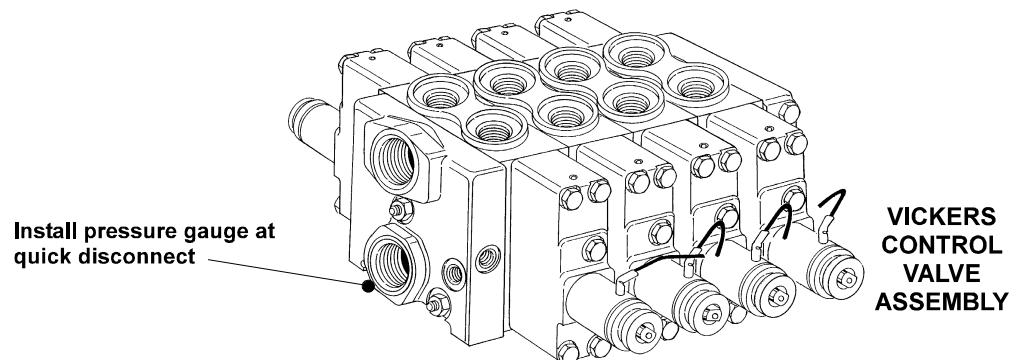
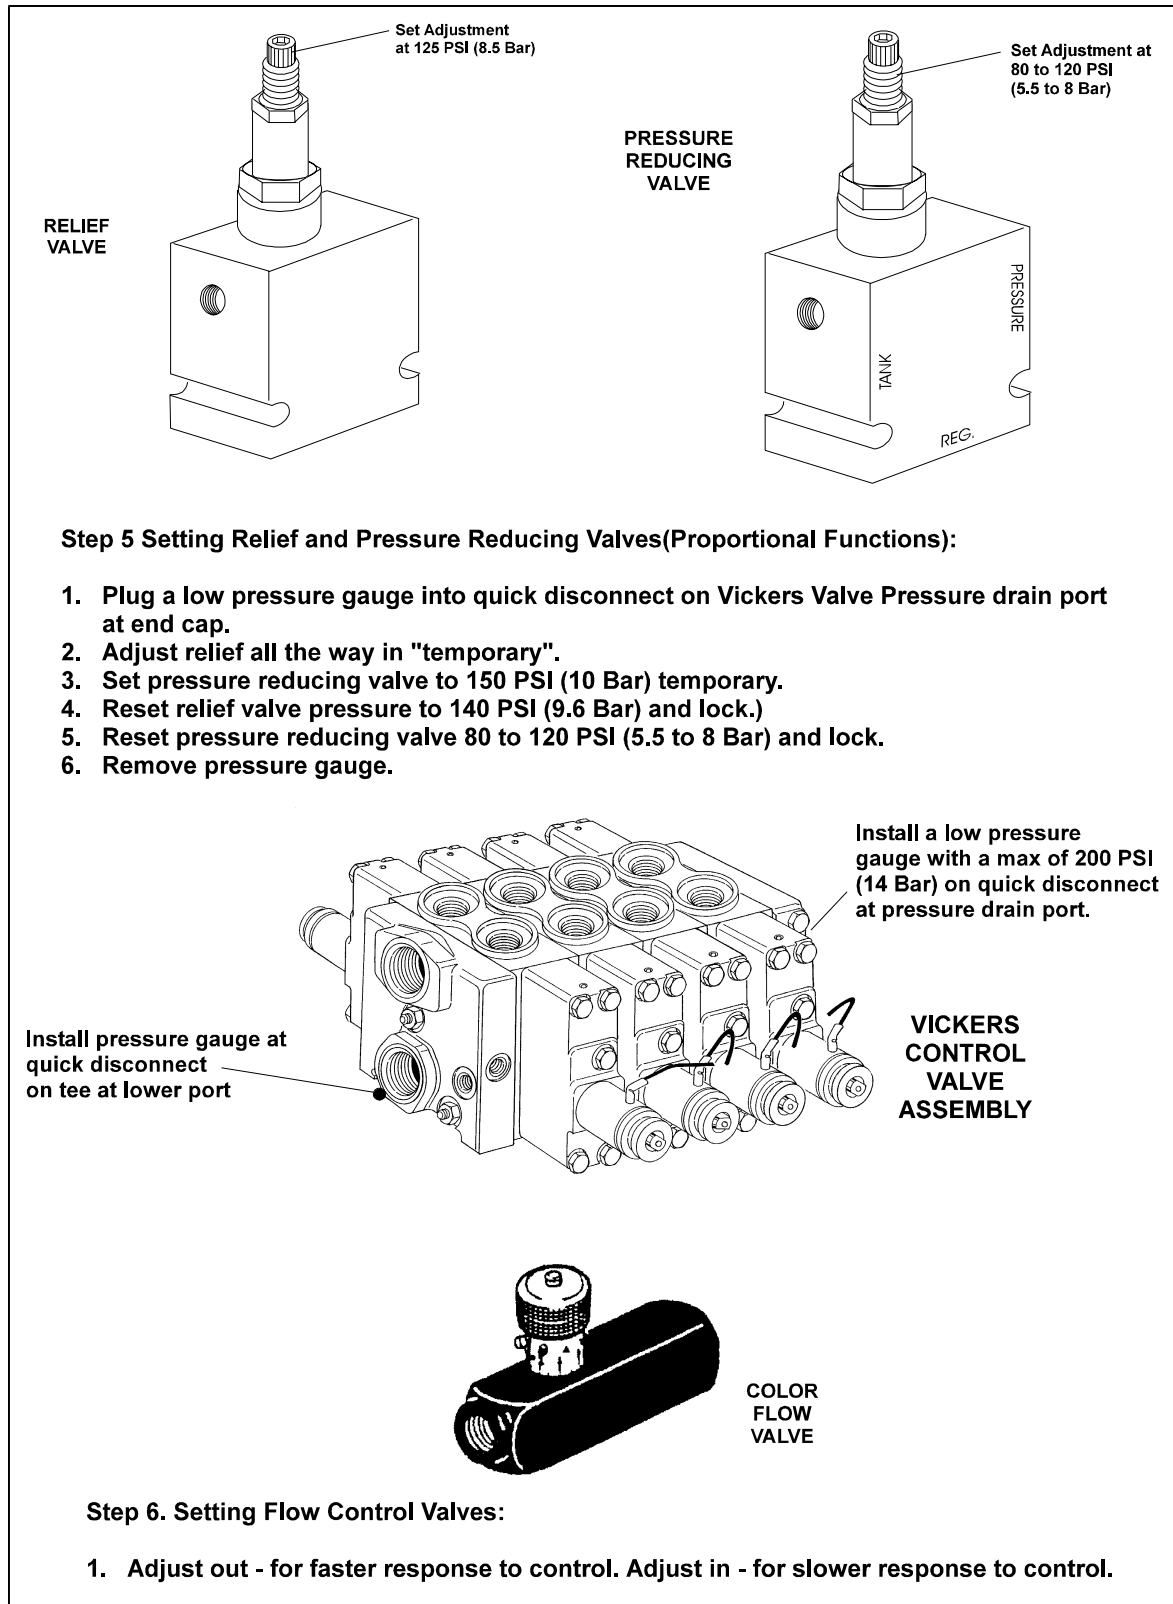

Figure 2-24. Pressure Setting - All Hydraulic Machines (Sheet 3 of 4)
Figure 2-25. Pressure Setting - All Hydraulic Machines (Sheet 4 of 4)
2. Vickers All Hydraulic Pressure Setting are shown in Figure 2-22., Figure 2-23., Figure 2-24., and Figure 2-25.